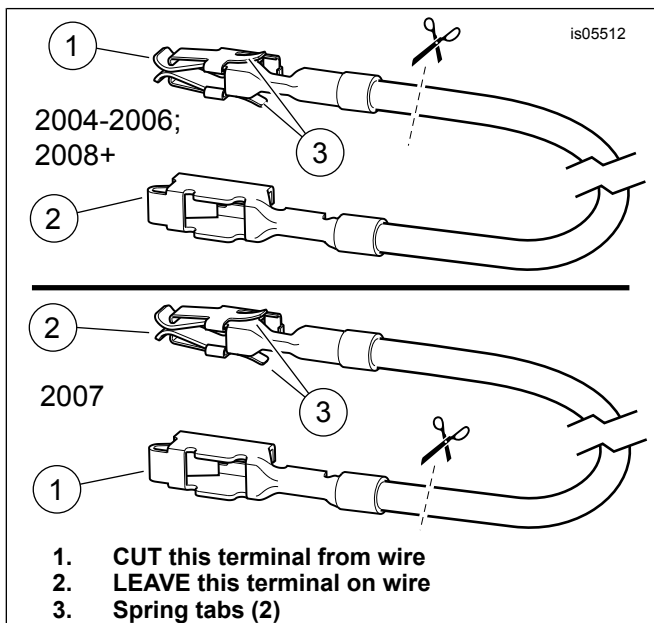

Figure 12. Fuse Block Adapter Wire (FL Touring)
2. Get the orange/white fuse block adapter wire (15) from the kit.
- a. **For 2004 through 2006 models:** See Figure 12. (upper view). Note the terminal on each end Only the terminal **WITHOUT** the spring tabs fits into the fuse cavity. Carefully cut the terminal **WITH** spring tabs from the wire and discard it.
b. **For 2007 models:** See Figure 12. (lower view). Note the terminal on each end. Only the terminal WITH the spring tabs fits into the fuse cavity. Carefully cut the terminal WITHOUT spring tabs from the wire and discard it.
- a. See Figure 12. (Upper view). Note the terminal on each end. Only the terminal WITH the spring tabs fits into the fuse cavity. Carefully cut the terminal WITHOUT spring tabs from the wire and discard it.